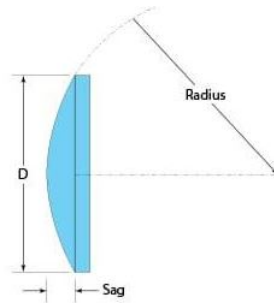

Figure 41: Sag for convex lens
In equation (31), There are only even terms because of the symmetric lenses. If we want to design asymmetric lens then we have to add odd terms. Sag for any lens is measured from its line passing through vertex perpendicular to optical axis which is given in figure 41. Basically, sag defines the curvature of surface at particular point on lens. Here  $C$  is curvature of radius at vertex of the lens,  $k$  is depended on the reference shape of the lens like spherical, parabolic, hyperbolic